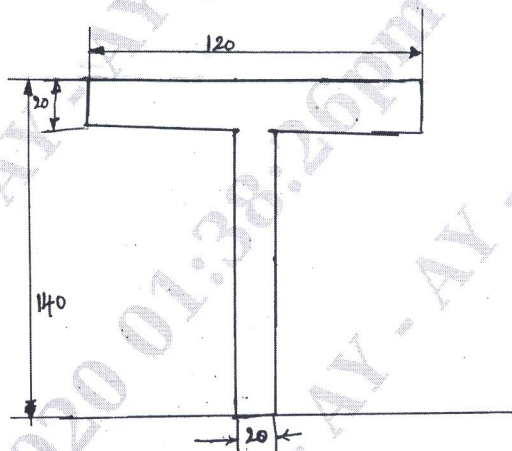

Fig Q6(b) (10 Marks)
b. A cast iron beam is T section shown in Fig Q6(b) is used as a simply supported beam over a span of 4 meters. It carries an uniformly distributed load 8 kN/m^2 over its entire span. Determine the maximum tensile and compressive stresses.